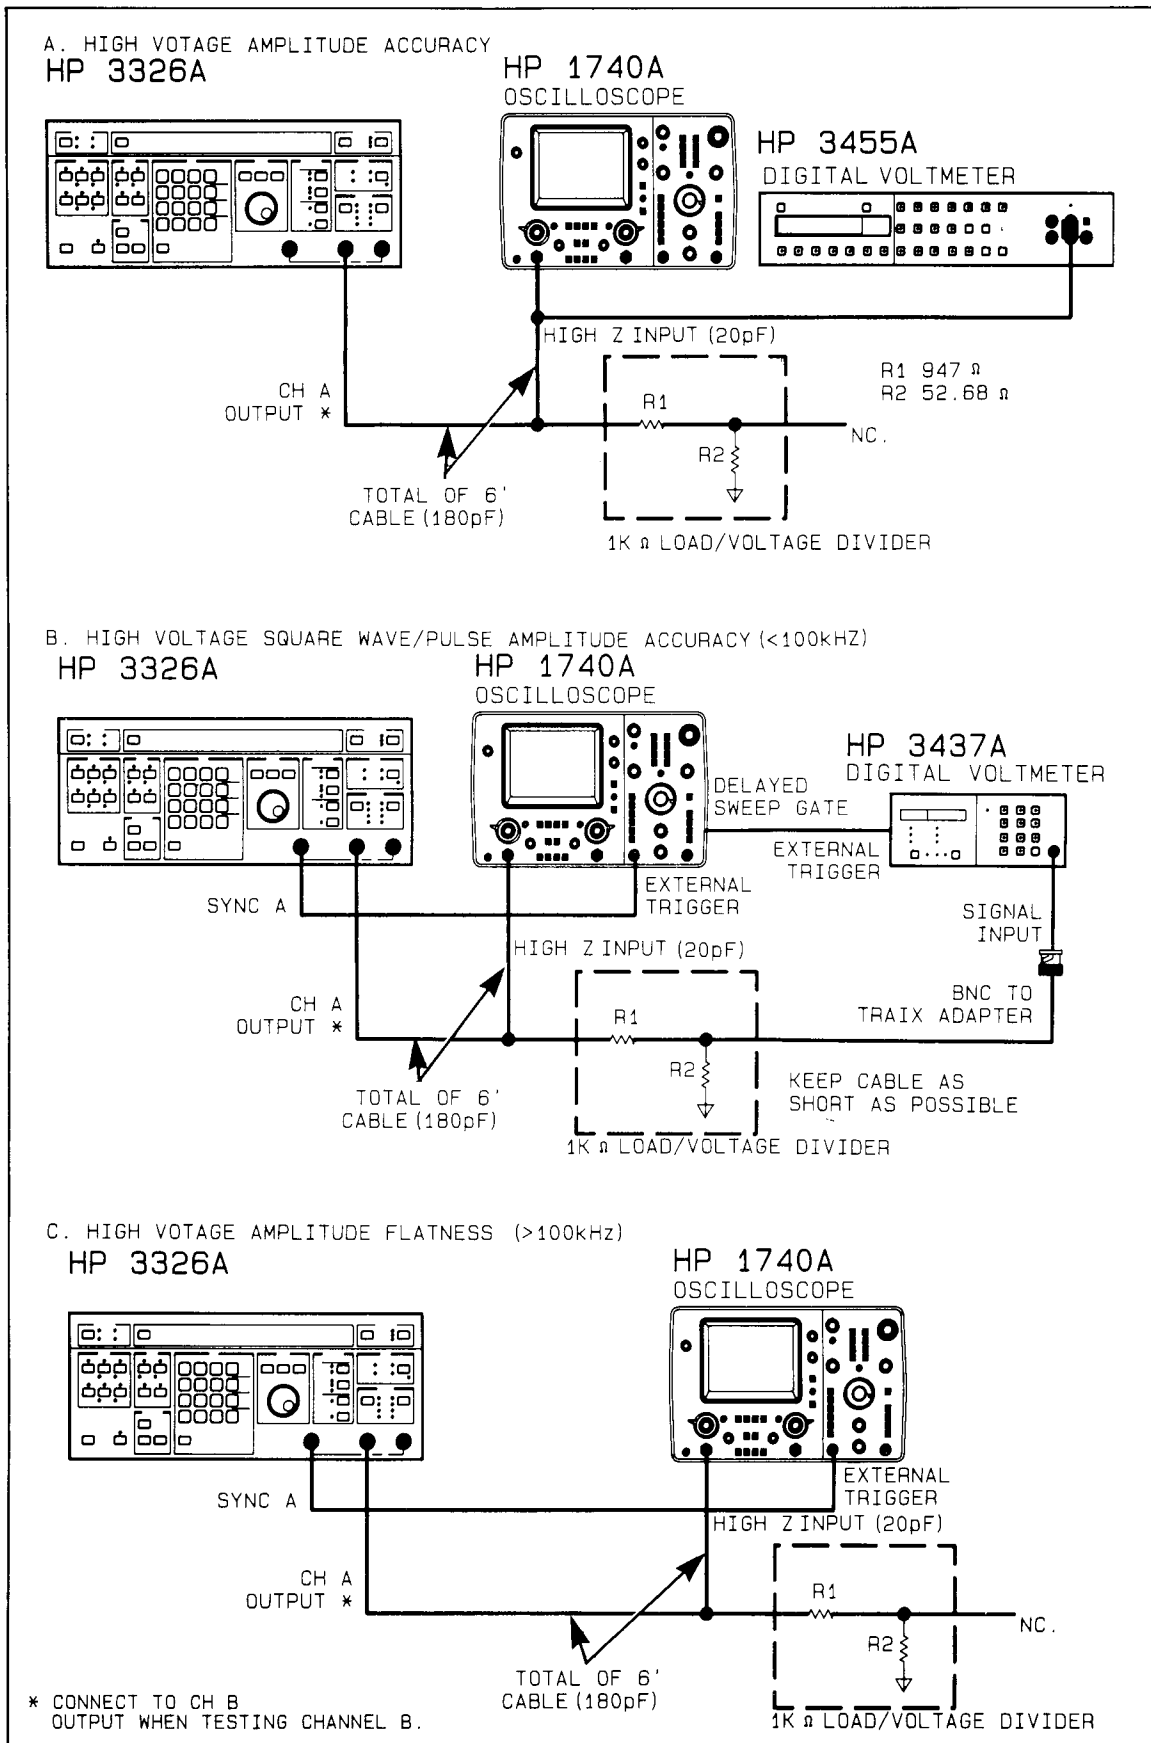

Figure 2-9. High Voltage Amplitude Accuracy Test
2. Connect the test equipment as follows (illustrated in Figure 2-9(A)):
7. Connect the test equipment as follows (illustrated in Figure 2-9(B)):
2. Connect the test equipment as follows (illustrated in Figure 2-9(C)):